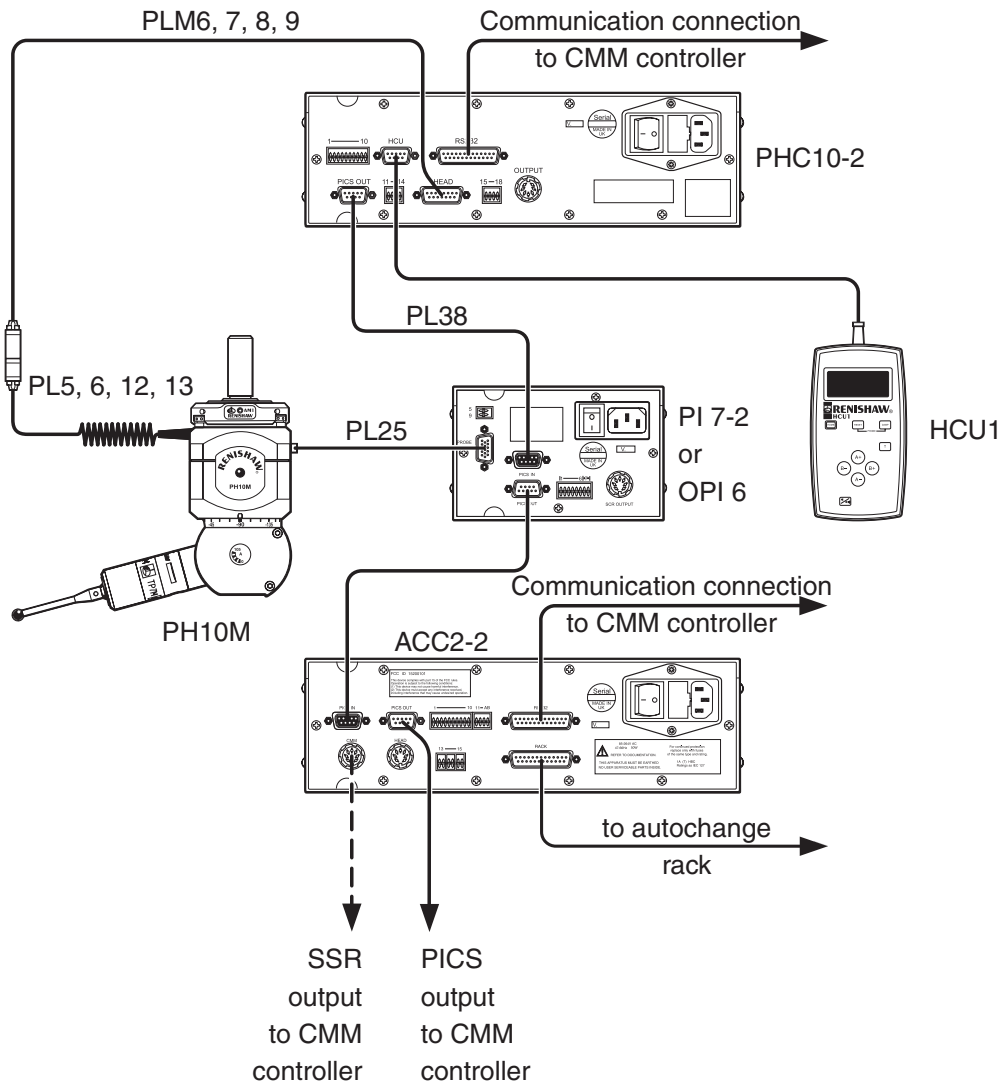

Figure 25 - PH10 system with multiwired probes and autochange
- The PH10M system with multiwired probes and autochange (see figure 25 and table 24)